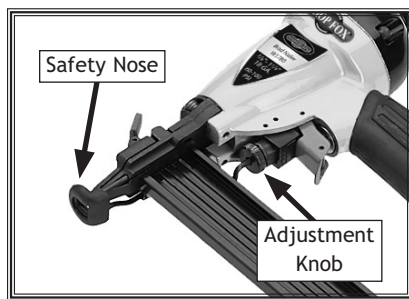

Figure 5. Depth adjustment controls.
2. Rotate the adjustment knob (**Figure 5**) clockwise to increase the nail depth, and counterclockwise to decrease the nail depth.